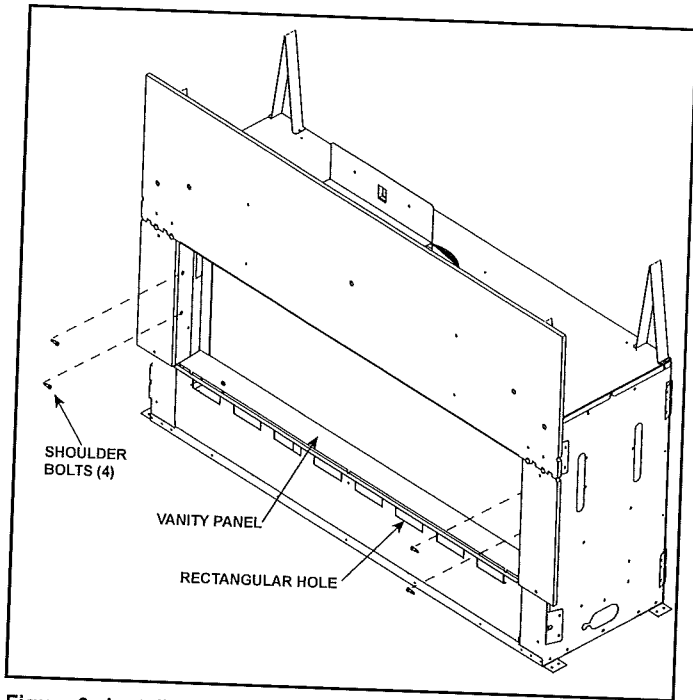
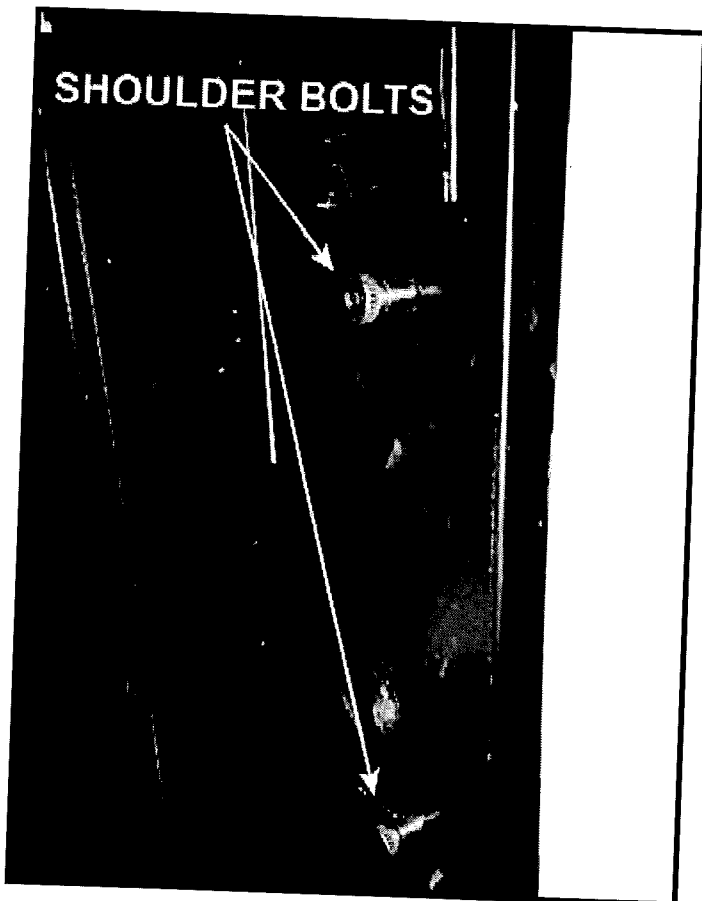

Figure 6. Install Shoulder Bolts
Figure 7. Shoulder Bolts Installed
The finishing material will also cover the rectangular holes. Refer to Figure 6 for the location of the rectangular holes.
6. Install four shoulder bolts into appliance through trim ring as shown in Figure 6 and Figure 7.